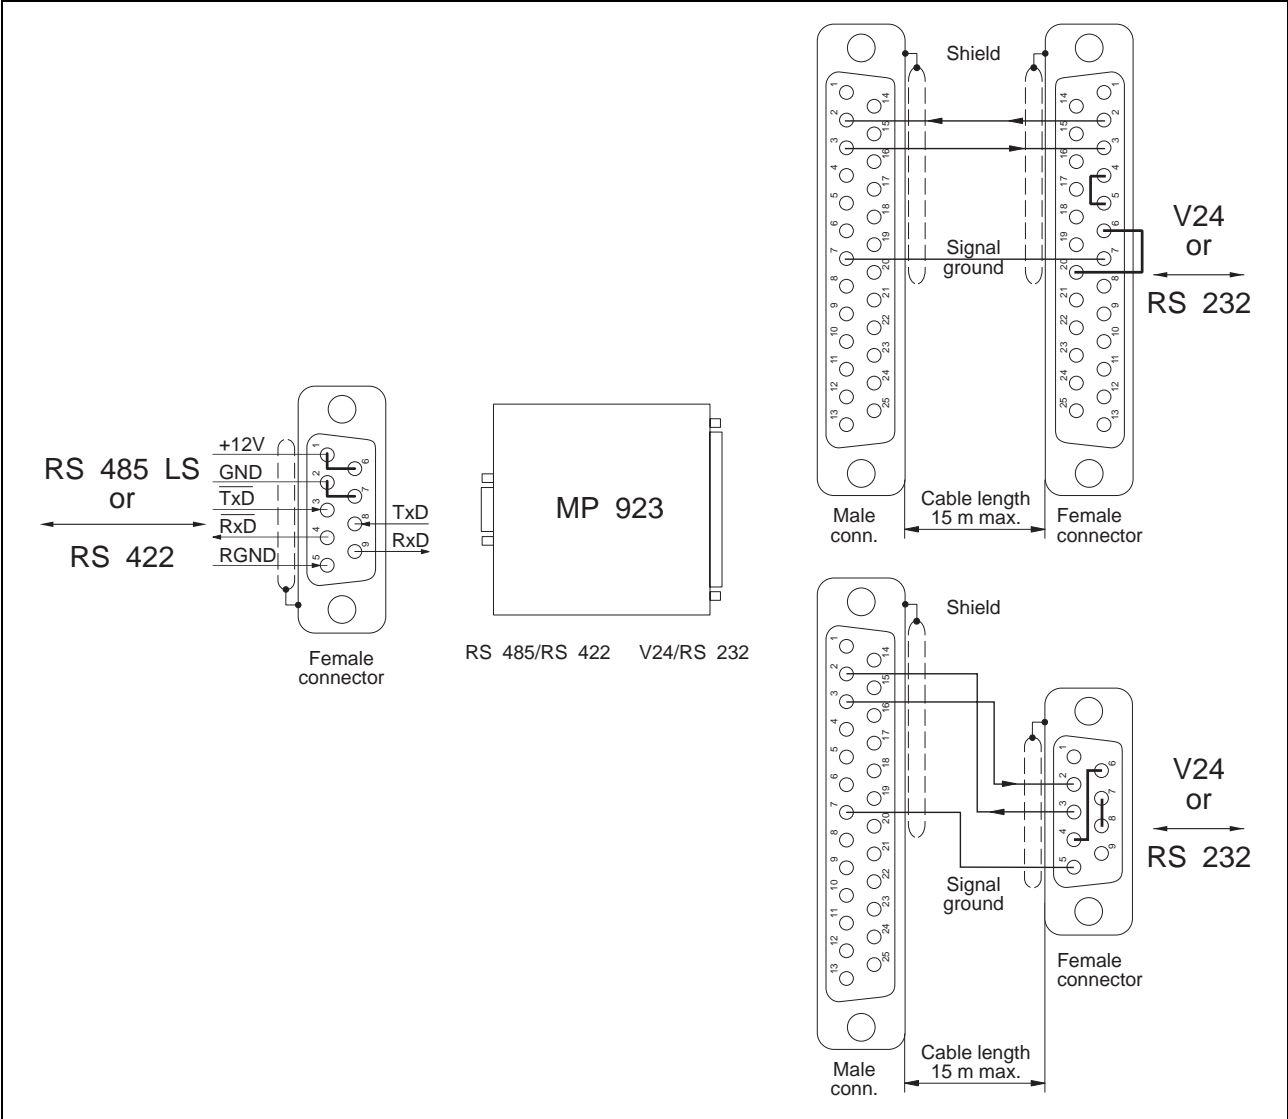

Fig. 6-5 MP 923 interface converter setup
1. Wire the MP 923 interface converter in accordance with fig. 6-5.